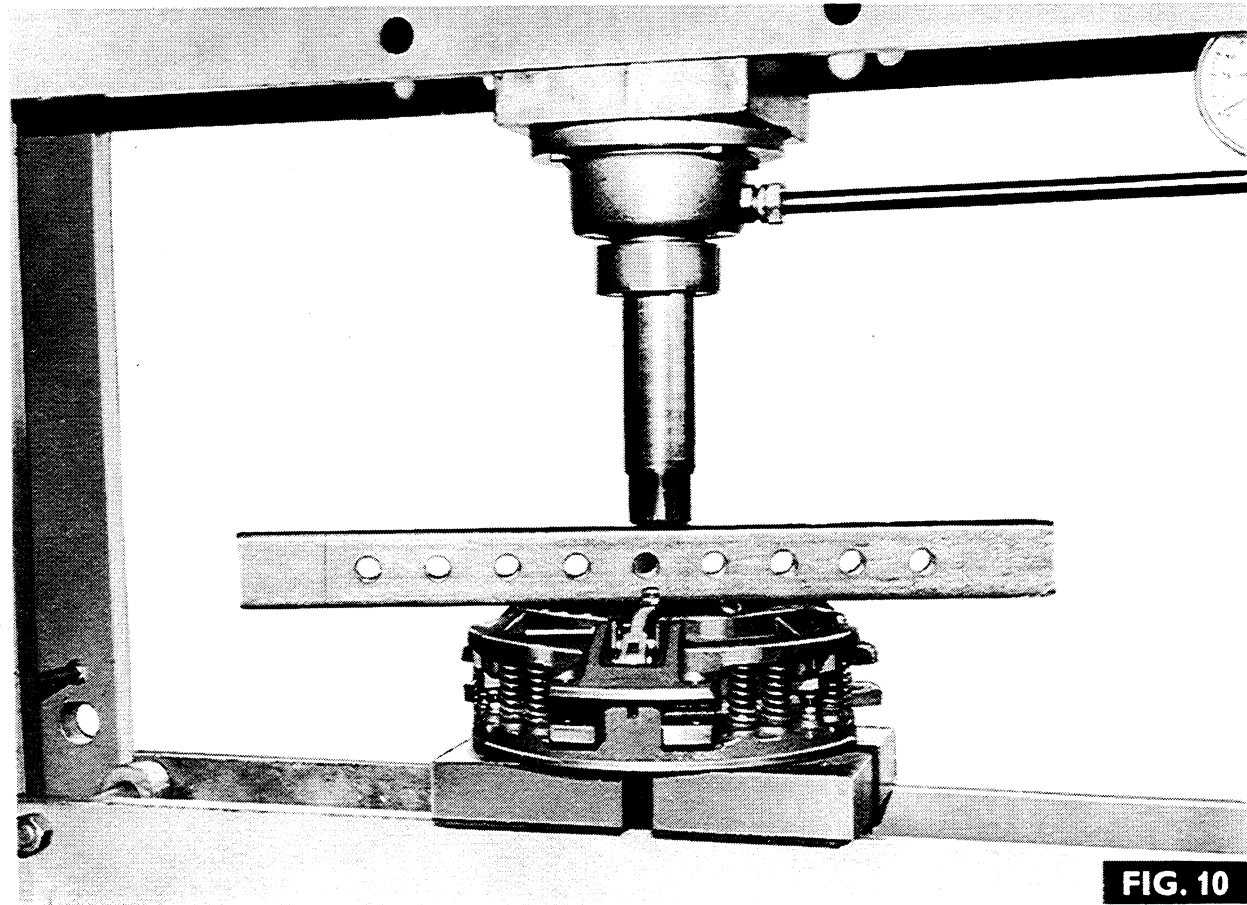

FIG. 10
1. If necessary, refit the links (7 and 14) to the main pressure plate (15).
2. Aligning the marks, refit the false flywheel (13), new p.t.o. friction disc (12) p.t.o. pressure plate (11) and Belleville spring (10).
3. Fit twelve new fibre washers (17) then fit the springs (18) and finally the cover plate (9) locating the links (7) through the slots in the cover plate.
4. Fig 10. Place the cover assembly on the press, refit the bar and compress the springs until the springs (4) and pins (8) can be refitted. Secure the pins (8) with the retaining clips (6).
6. Remove the cover assembly from the press then refit the cover assembly to the tractor, as stated in operation 4A-01-02, using a new friction disc (16).